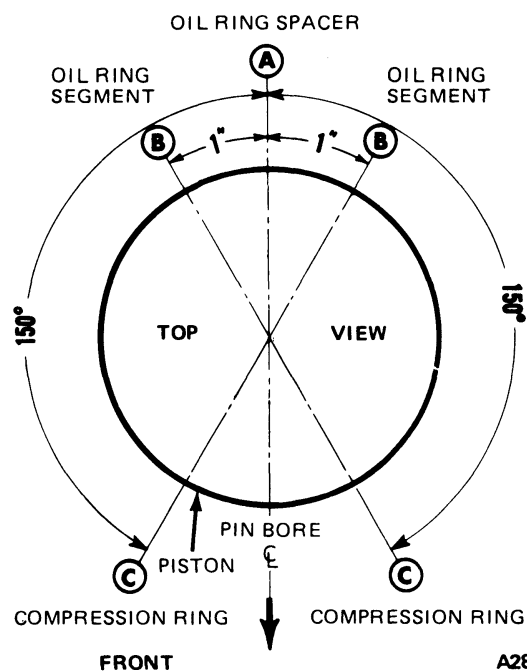

FIG. 31 Piston Ring Spacing
3. Make sure that ring gaps (oil ring spacer A, oil ring segments B, and compression ring C) are properly spaced around circumference of piston (Fig. 31).